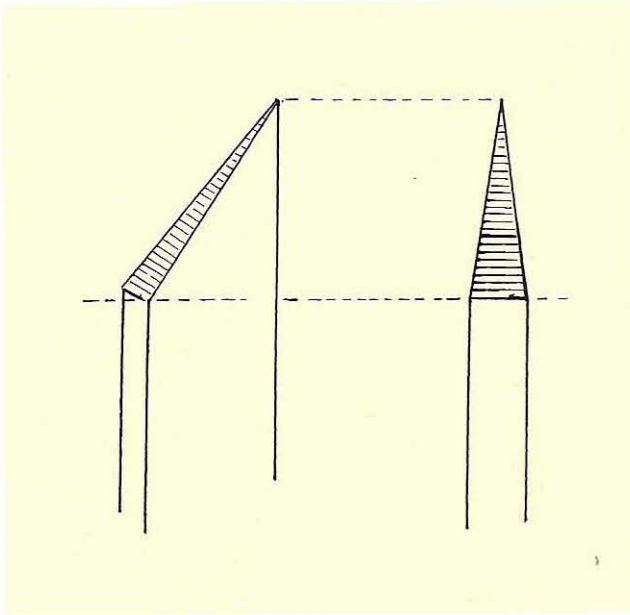

Fig 12.27 The initial setting and lengthening of the skew angle makes the chisel look wedge-shaped
- 1 Grind the skew angle first: the acute angle at the tip of the blade should be 40–45° for general use, around 30° for more delicate work. Present the end of the blade to the wheel so as to keep a straight line along the edge. This grinding will make the edge look wedge-shaped, narrowing to the long point (Fig 12.27).